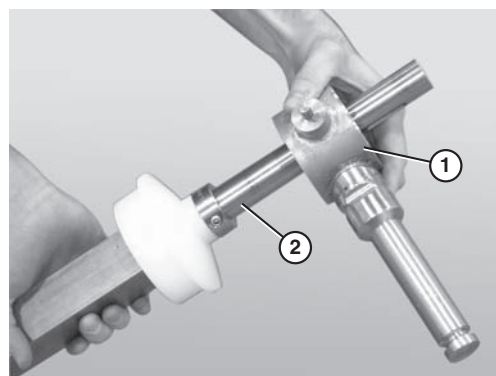

Figure 85
7. Slide the second bearing shaft assembly, or the motor mount bracket (**Figure 85, item 1**), onto the longer end of the drive spindle (**Figure 85, item 2**).